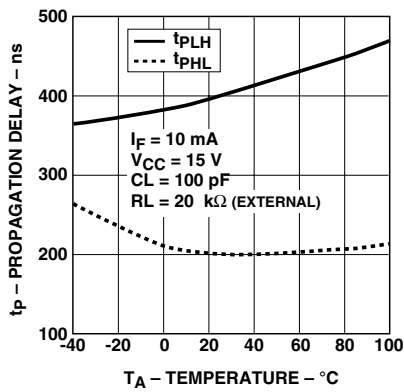

Figure 8. Propagation delay with external 20 kΩ RL vs. temperature.
- Due to tolerance of the internal resistor, and since propagation delay is dependent on the load resistor value, performance can be improved by using an external $20 \text{ k}\Omega$ 1% load resistor. For more information on how propagation delay varies with load resistance, see Figure 8.